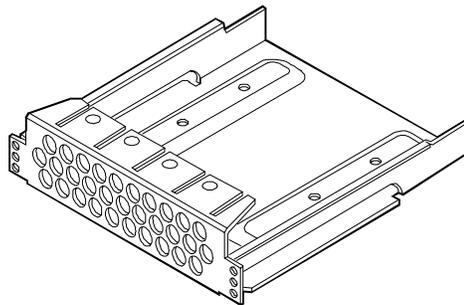

Figure 3-2. E 45 Hard Disk Drive Mounting Tray
NOTE The HP NetServer E 45 ships with drive mounting trays installed in shelves 3 and 4. Drives shipped as accessories usually come installed on a factory tray, which must be removed. The drive must be put on an HP NetServer E 45 tray (See Figure 3-2).
- Remove the drive mounting tray from the system. (See Figure 3-2.)